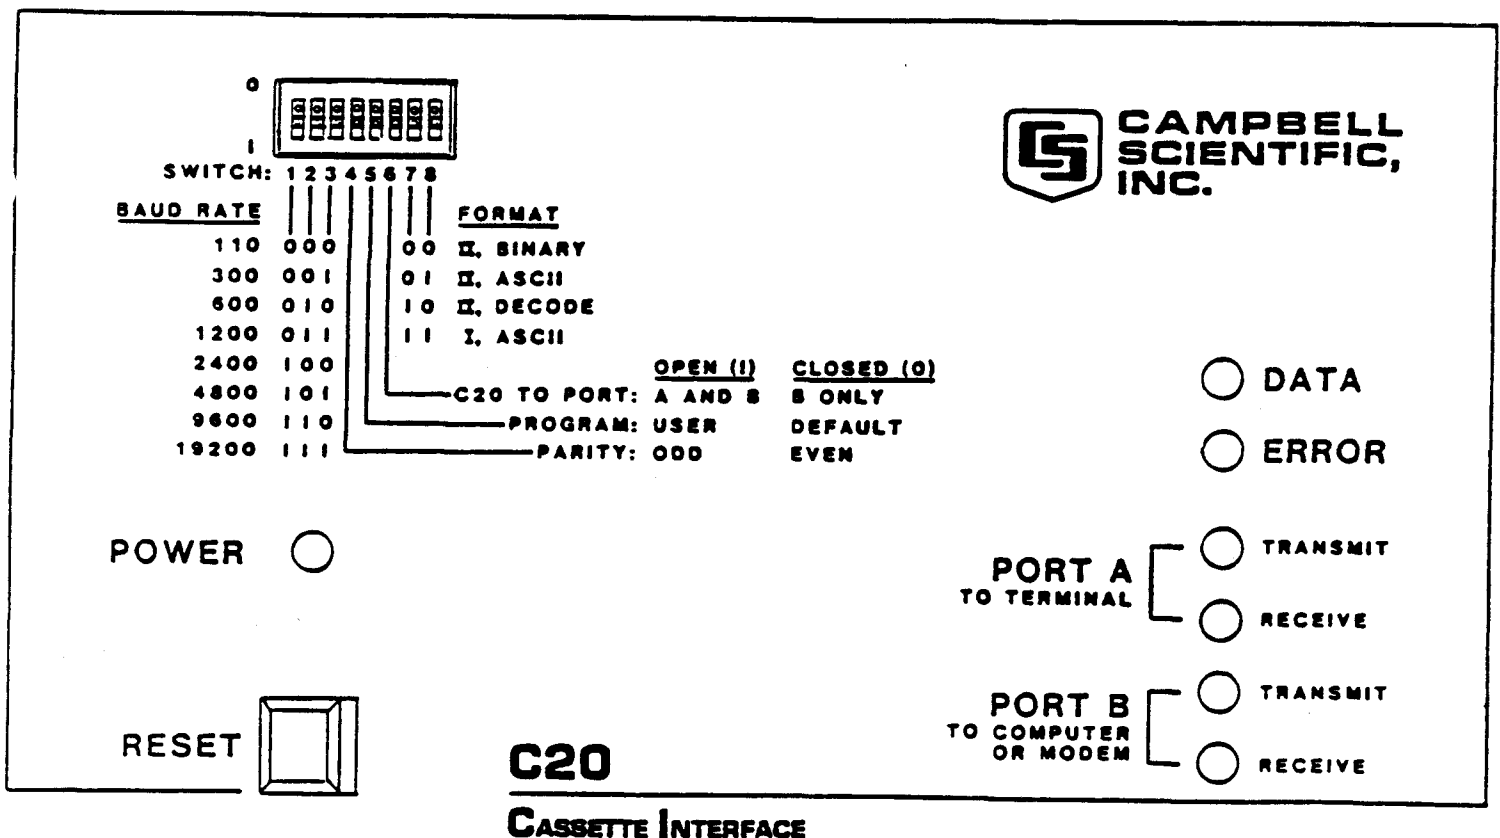

Figure 2-1. C20 Front Panel
Move switch 5 on the C20's (Figure 2-1) front panel (PROGRAM MODE) to the DEFAULT position (closed).
The various operating modes of the C20 Cassette Interface are determined by the switch settings and through communication commands at either of the two serial ports (PORT A and PORT B). A switch-by-switch description follows explaining the specifics of the various modes of operation and the necessary switch settings and commands for each mode. The front panel description is reproduced in Figure 2-1 for reference.
The form of the data output by the C20 through PORTS A and B depends on the setting of switches 7 and 8. The four options are (1) 11, BINARY, (2) 11, ASCII, (3) 11, DECODE and (4) 1, ASCII. The front panel (Figure 2-1) shows the corresponding switch positions.